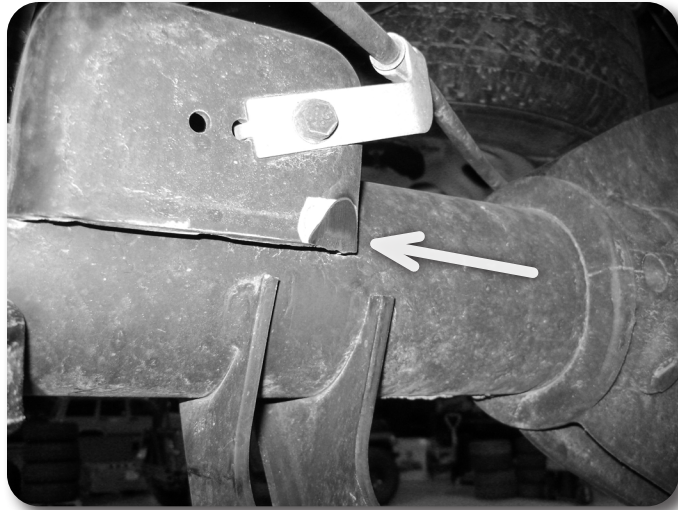

Figure 14
14. **INSTALLING NEW OPTIONAL ZONE SHOCKS ONLY:** The passenger's side bump stop bracket on the axle must be trimmed slightly to add clearance for the new larger rear shocks. Grind the inside front corner to gain approximately 1/4" of clearance. Figure 14 Paint bare metal to prevent rust.